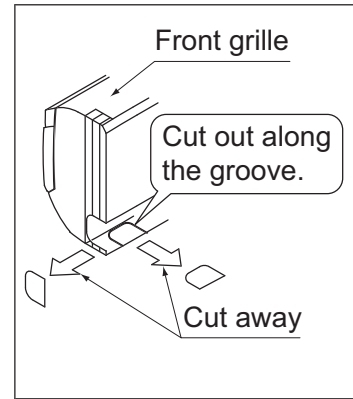

Fig. 5
(3) If using the left, bottom-left, right, or bottom-right positions for piping, cut out the through-hole for the piping in the front grille using such as a box cutter. (Refer to Fig. 5)